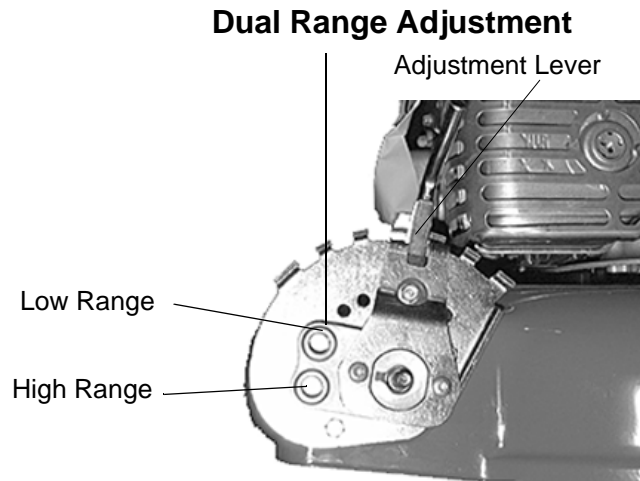

Figure 3
The cutting height adjustment levers are located above each wheel. Cutting heights are from 3/4" to 4-1/2" with 3/8" increments. The low range setting is 3/4" to 2-5/8" and the high range setting is from 2-5/8" to 4-1/2". To adjust the cutting height, push the levers away from the mower and then move it forward or back for a new cutting height. Repeat for each wheel. See Figure 3. Make sure each wheel is in the same height position.
There are two positions on the height adjusters to mount the wheels. One for the low range and one for the high range. The wheels are installed in the holes for the higher cutting range at the factory. See Figure 3.
**WARNING:** The blade continues to rotate for a few seconds after the engine is shut off or the blade brake control is released. (See Figure 3).